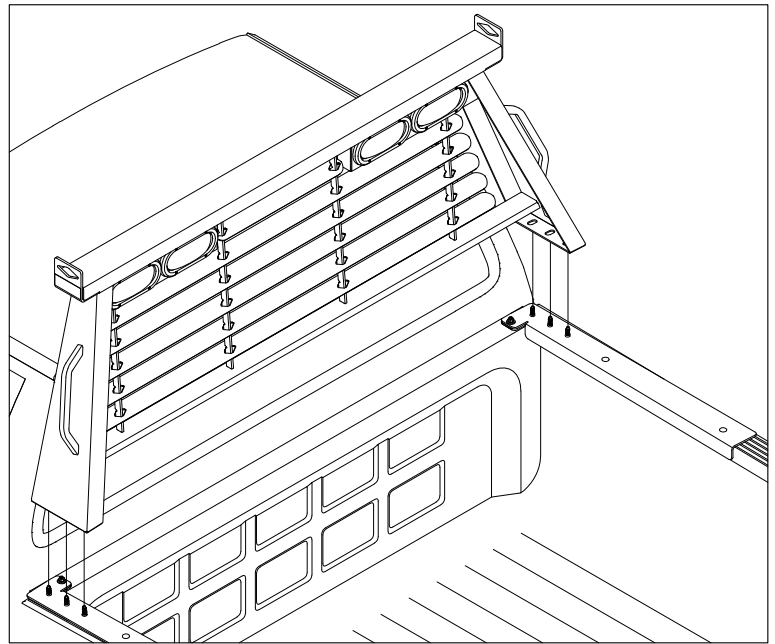

FIGURE B1
4. **Spacer (Optional).** If your truck is equipped with plastic bed caps a small spacer has been provided for use under the Bed Protectors, see figure B1. If your truck has no plastic bed Caps then the Spacers may be discarded.
1. **Install Cab Protector.** Position the slots on the bottom of the cab protector over threaded studs on the bed protectors, See figure B1. Fasten the cab protector with the provided 3/8" Large flat washers, lock washers, and finish nuts. Do not fully tighten. Make sure the cab protector is centered with the truck as viewed from the rear.